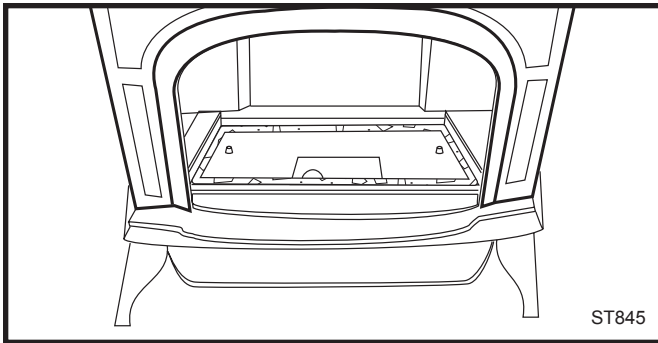

Fig. 12 Cement ash pit plate.
25. Cement the stove bottom and the left and right shoulder plates at the locations indicated in Figure 12. Install the ash pit plate. The two cutouts along the long edge go toward the back of the stove. Secure with two Phillips flat head machine screws, 1/4-20 x 1".